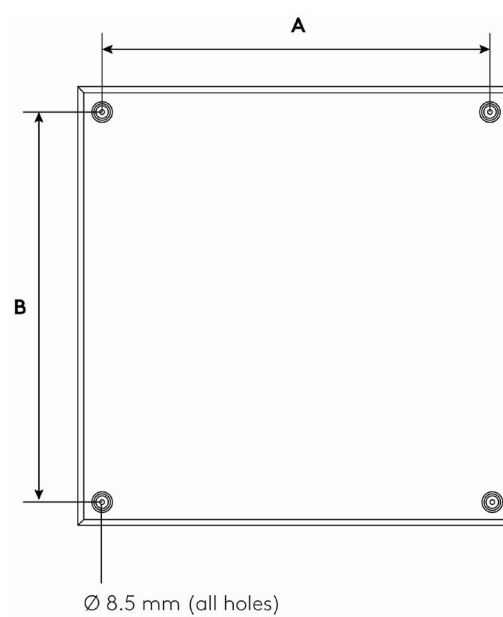

Figure 1. Mounting Diagram.
- Drill four holes as per *Figure 1* and *Table 2*.